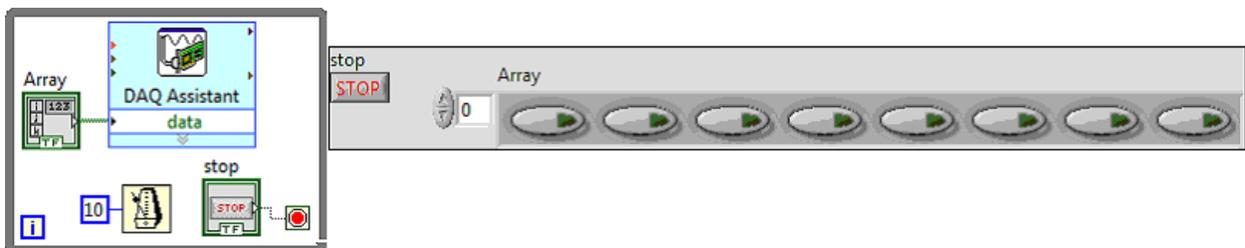

Figure 2.4 Boolean control of all LEDs
- Again from Controls, choose *Modern » Boolean » Push Button* and place this **inside** the array. Stretch the array towards the right until you can see eight buttons (figure 2.4).